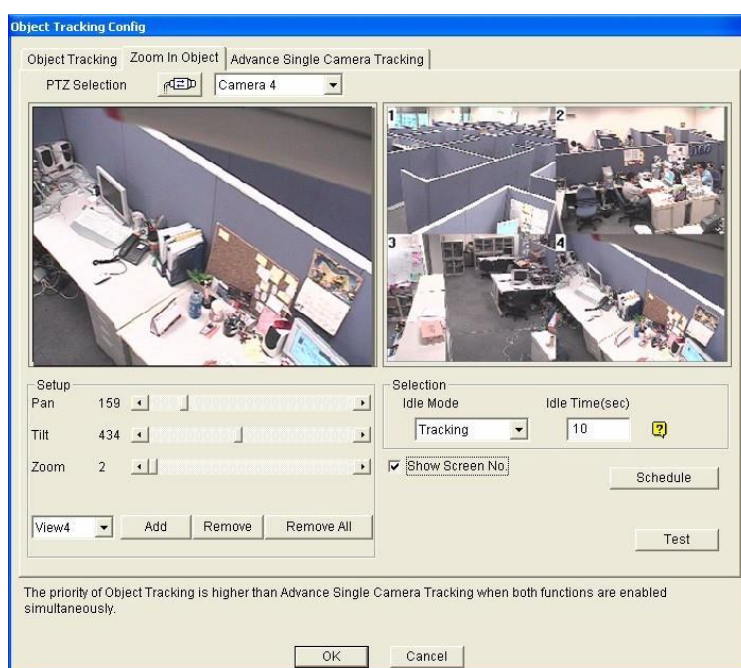

Figure 3-9
3. Choose the camera view of the PTZ. In Figure 3-9, the images of the PTZ camera show in the camera 2 view.